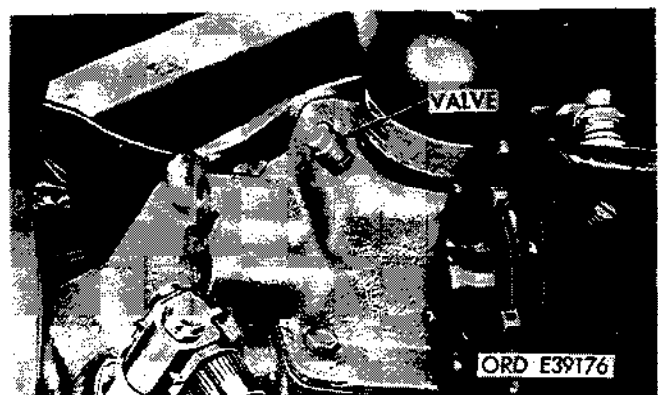

Figure 2-290. Unscrew and remove breather valve.
(1) Remove transmission cover plate (para 2-199).
(2) Unscrew breather valve and remove (fig. 2-290).